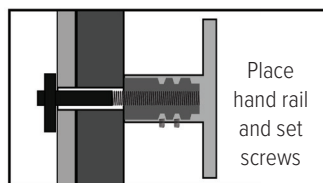

Figure 1.8
1.8 Locate the correct hand rail for wall "A" and slide the hand rail stand offs over the aluminum inserts until the stand offs are tight against the wall panel as shown in Figure 1.8.